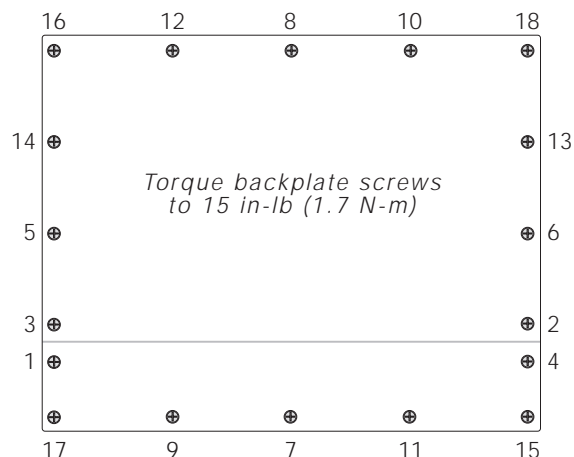

Figure 2. 920i Enclosure Backplate
7. Once cabling is complete, position the backplate over the enclosure and reinstall the backplate screws. Use the torque pattern shown in Figure 2 to prevent distorting the backplate gasket. Torque screws to 15 in-lb (1.7 N-m).